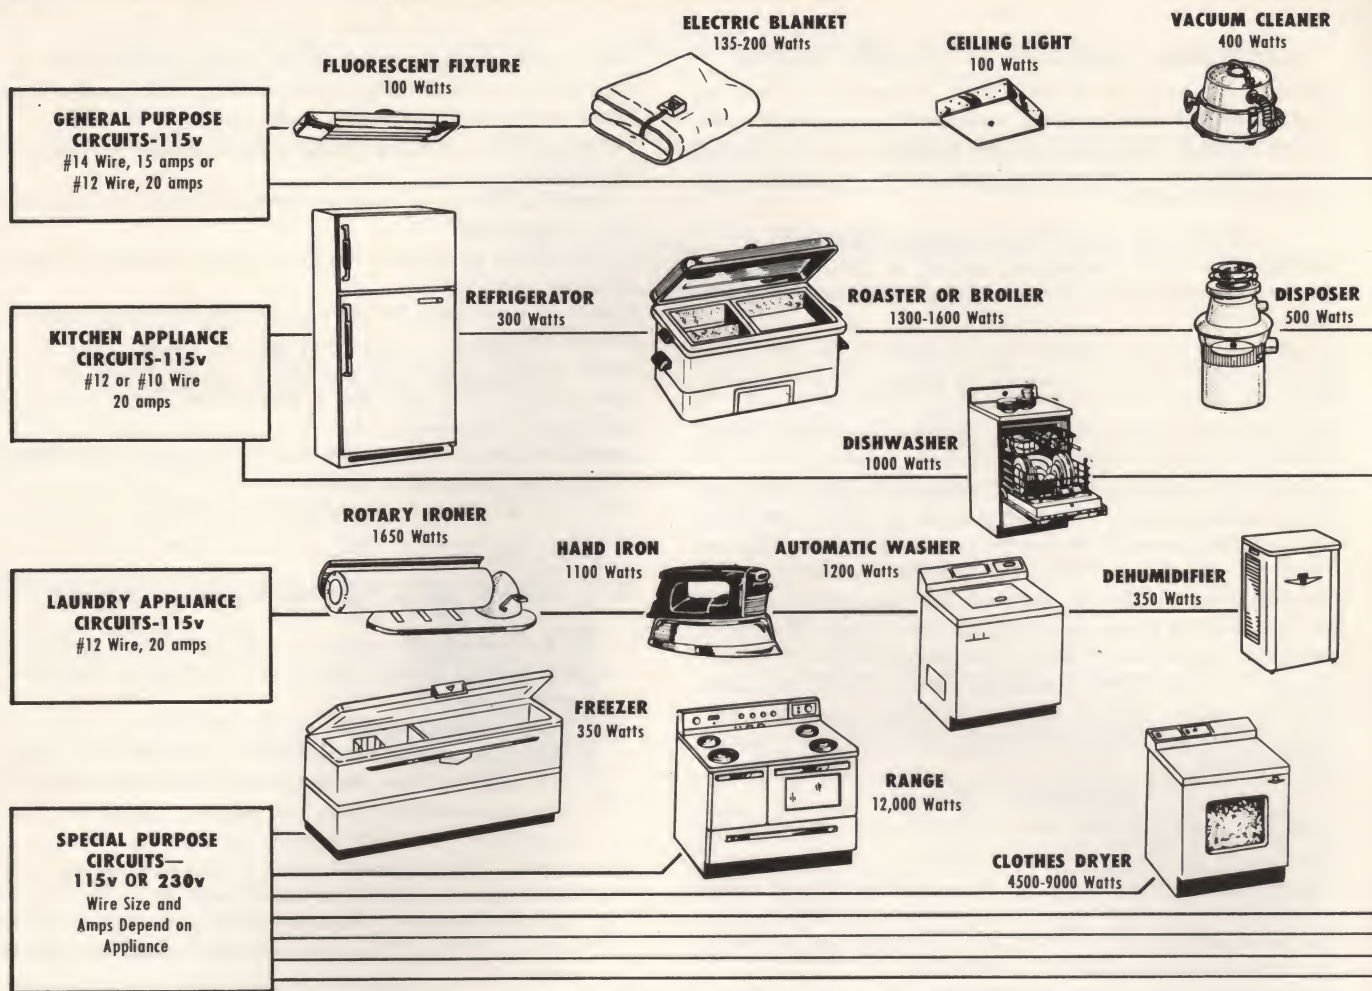
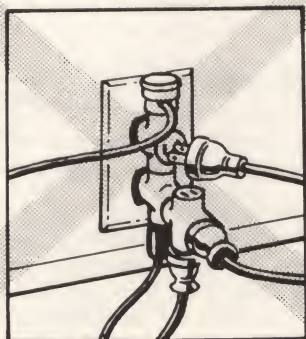

FIG. 1—POWER CONSUMPTION OF MODERN ELECTRICAL APPLIANCES
FIG. 2—"OCTOPUS" CONNECTIONS
**MOST HOMES INADEQUATELY WIRED.** If your house is 15 or more years old, it probably has "outgrown" its wiring. When it was built, the wiring was probably sufficient for the basic electrical needs of its time. But, as more electrical devices were developed and introduced, newer standards of electrical living have become commonplace. Fig. 1 shows typical electrical appliances and the current they consume. As a result, there is a shortage of outlets in most homes. This problem is often "solved" by using double or even triple outlet plugs. These familiar "octopus" combinations, as in Fig. 2, are fire hazards and should be avoided.